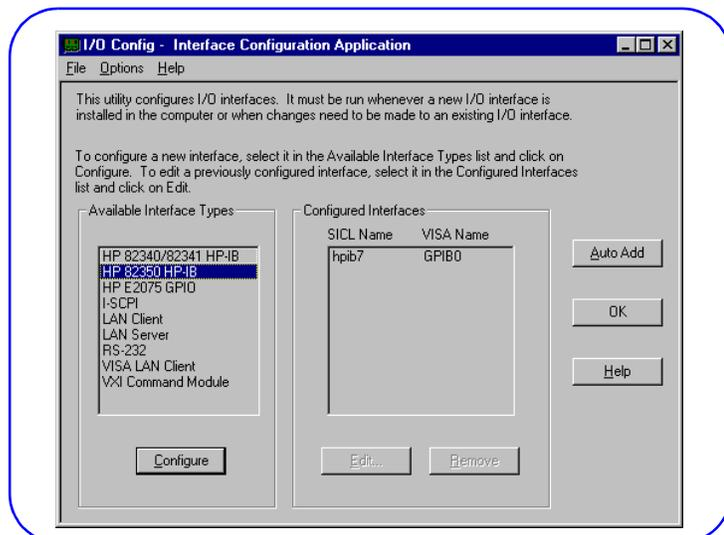

Figure 20. Typical I\_O Config Utility Screen
- 7 When the **View Readme and Configure Interface** screen appears, be sure the *Configure interfaces* box is checked. (You can uncheck the *View Readme* box if desired.) Then, click *Next* to display the **I\_O Config** screen (see Figure 20).